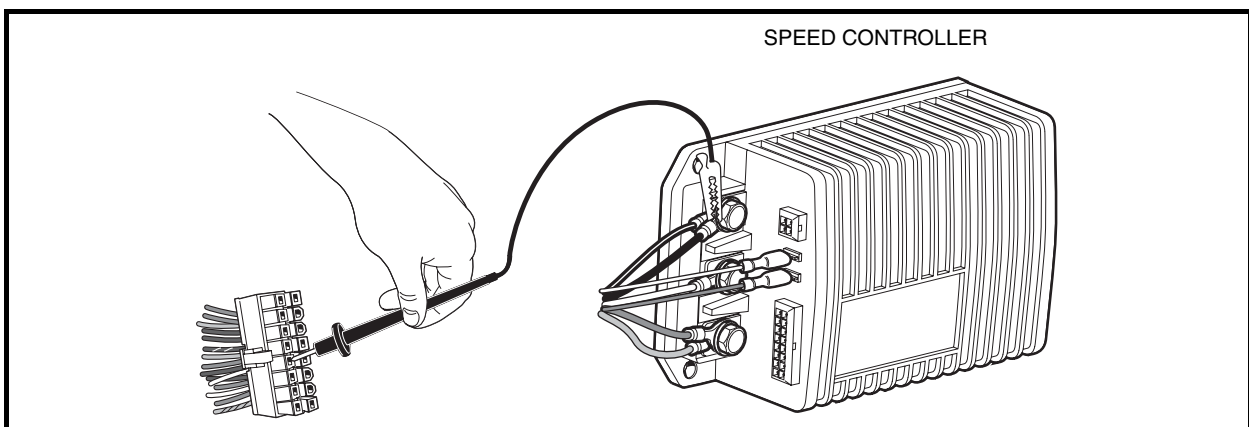

Figure 11-21 Pin 12 Test
4. Place a jumper wire with an alligator clip between the B– terminal of the speed controller (use alligator clip for this connection) and pin 12 (blue/white wire) of the 16-pin connector (**Figure 11-21, Page 11-35**). **See following CAUTION.**